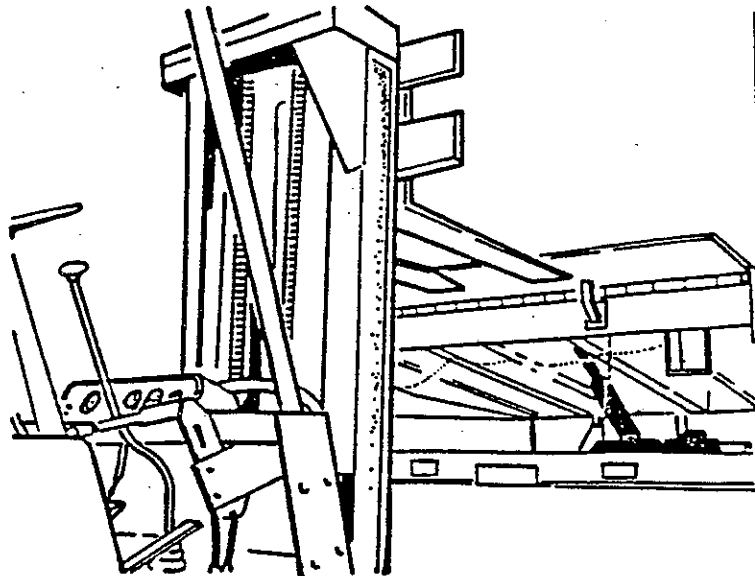

Figure 6
9. Utilizing the fork lift, raise lip and deck until frame is exposed. (See Figure 6)